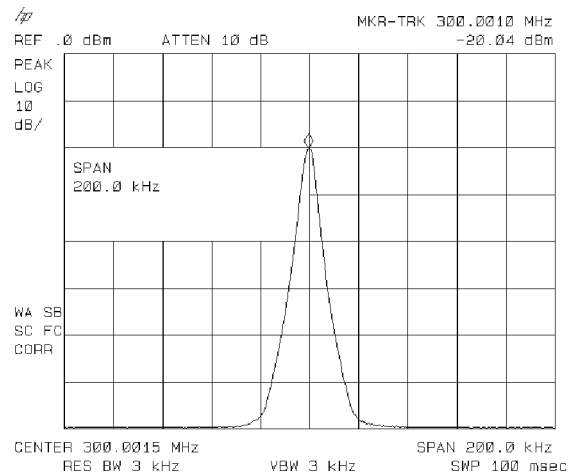

Figure 6-7. After Zooming In on the Signal
2. Press **MKR FCTN**, **MK TRACK ON OFF** (ON) and the signal will move to the center of the screen, if it is not already positioned there (note that the marker must be on the signal). Because the marker track function automatically maintains the signal at the center of the screen, you can reduce the span quickly for a closer look. If the signal drifts off of the screen as you decrease the span, use a wider frequency span.
3. Press **SPAN**, 200 **kHz**. The span decreases in steps as automatic zoom is completed. See Figure 6-7. You can also use the knob or step keys to decrease the span or use the **PEAK ZOOM** function under **SPAN**.